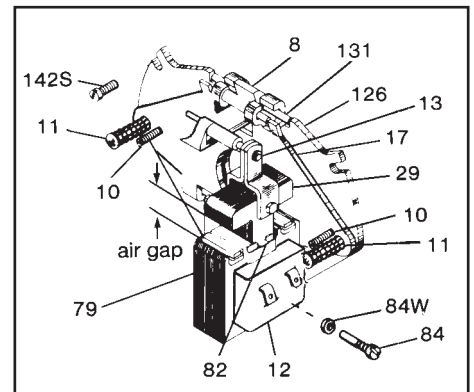

Figure 8
Note 2: Both adjustment screws (11), Figure 8, must be turned equal amounts counterclockwise to decrease torque.
A. Adjustment for friction disc wear (see Table 2 and Figure 8)
- Refer to Figures 8 and 9. Insert screwdriver between support plate (126) and lever arm (17). Wedge apart and remove as an assembly bearing pin (26), bearing (6), pin (131), solenoid lever (8) connected to solenoid link (13) and plunger (29).